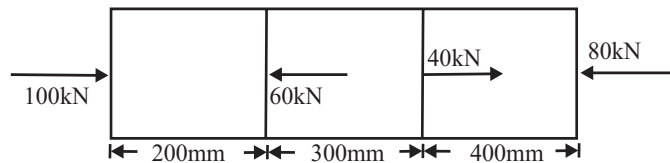

Fig. 4
- (b) A steel bar is subjected to loads as shown in Fig 4. If young's modulus for the bar material is 200kN/mm^2 determine the change in length of bar. The bar is 200 mm in diameter.